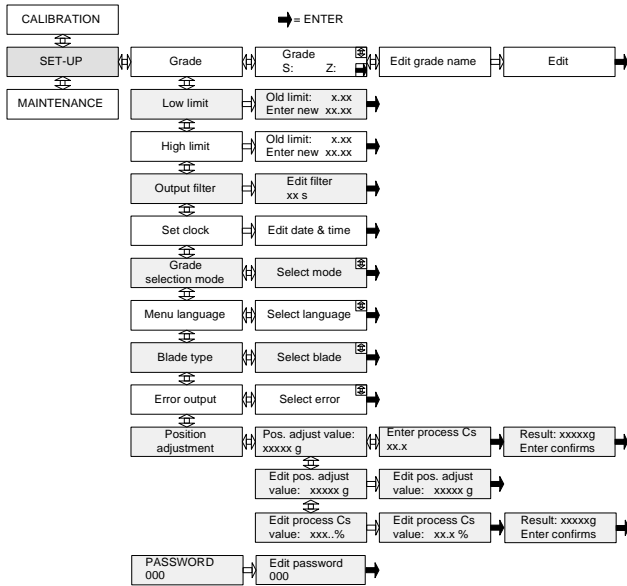

Figure 5. Set-up menu.
**Make the following set-ups (See fig. 5):**